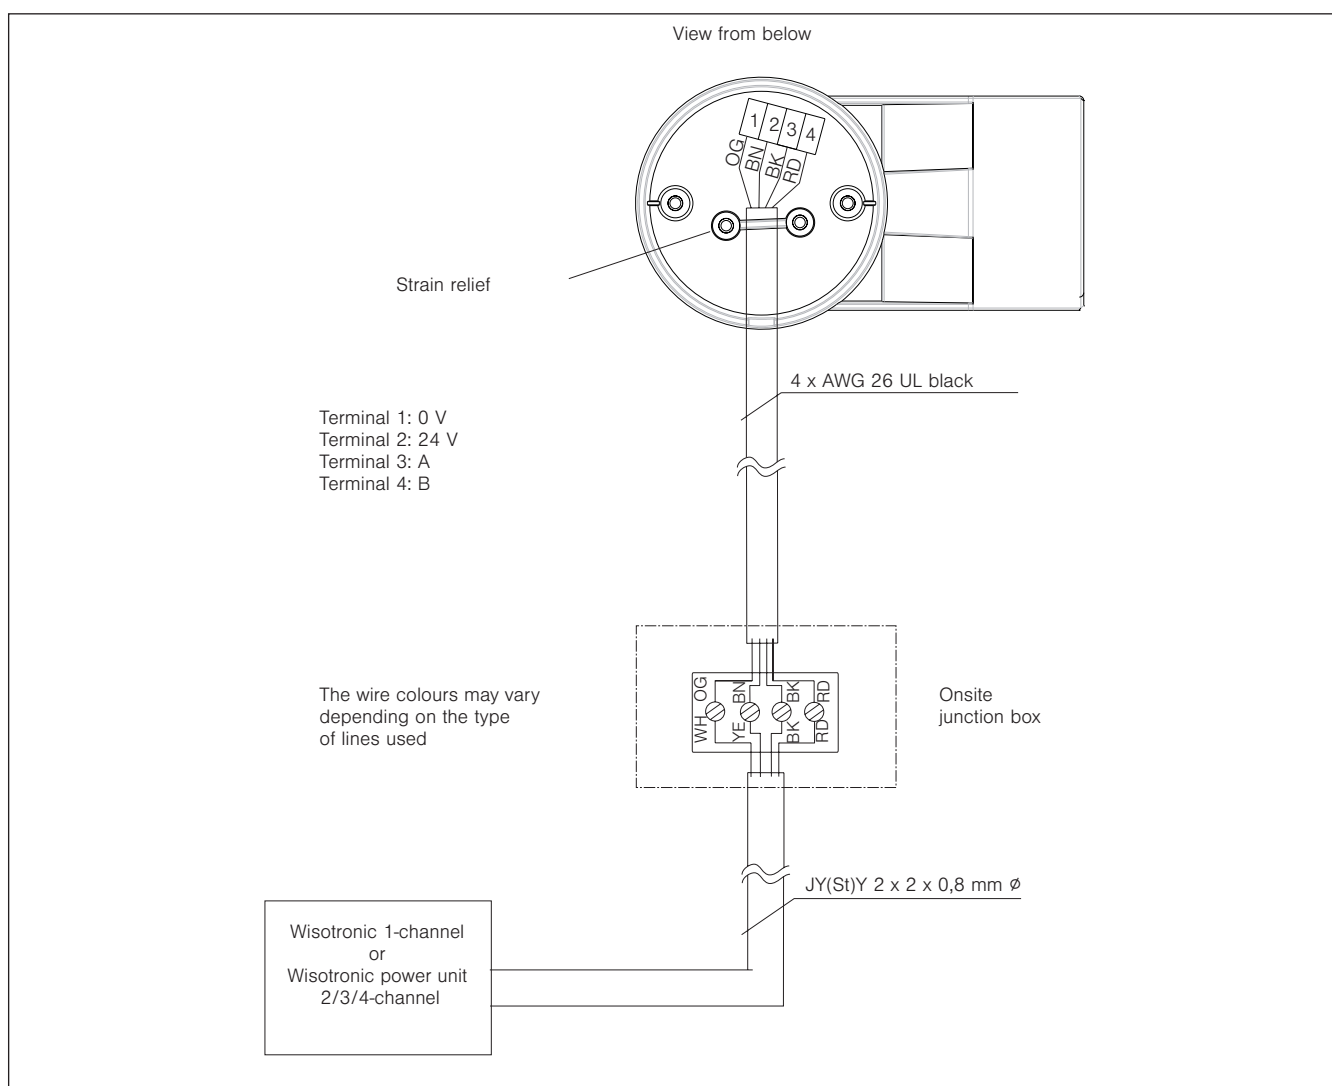

Fig. 4 Weather station multisense wiring diagram
- Connect the weather station to the Wisotronic as per wiring diagram Fig. 4 on page 4.